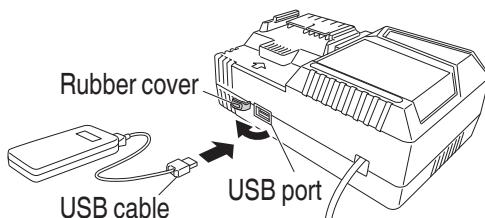

Fig. 24
(2) Connect the USB cable. (**Fig. 24**)